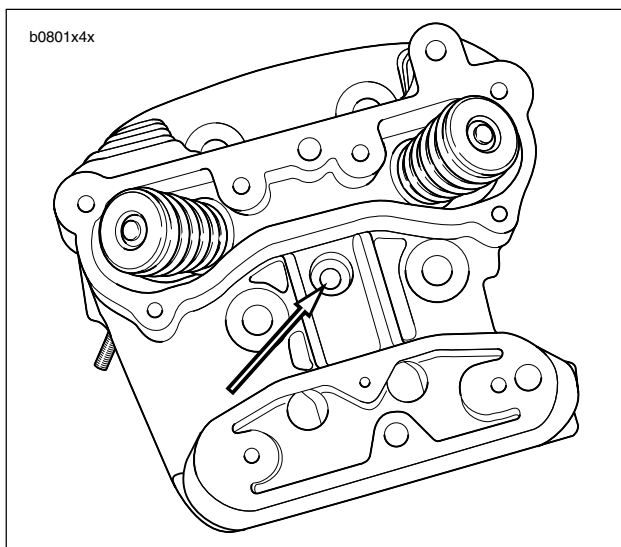

Figure 4-76. Engine Temperature Sensor Location (rear cylinder)
1. See Figure 4-76. Screw sensor into rear cylinder head.